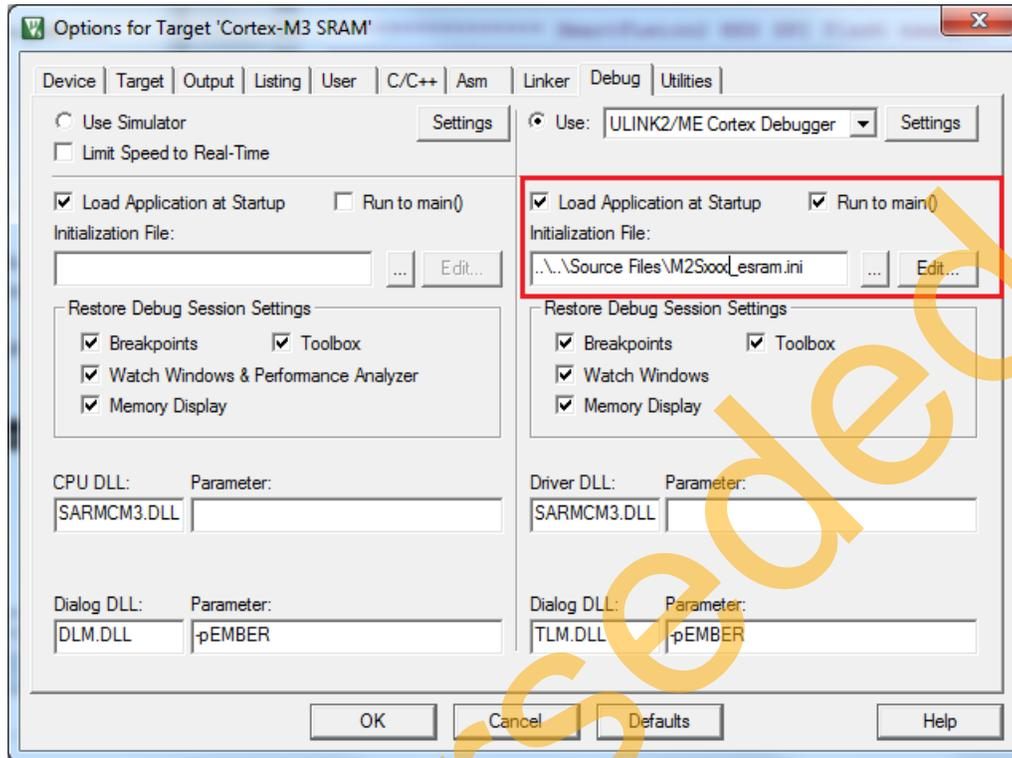

Figure 31 • Target Options - Initialization File
- Click the **Debug** tab and browse the //sf2_spi_flash_keil_liberov11p4_tu_df/SourceFiles/ folder for initialization file provided as shown in Figure 31.